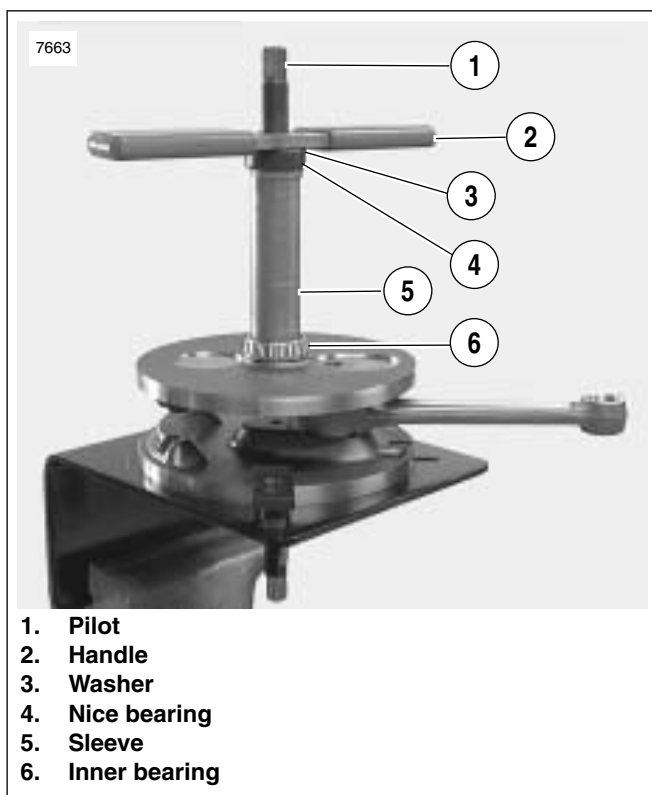

Figure 3-129. Inner Bearing Installation
See Figure 3-129. Use **SPROCKET SHAFT BEARING/SEAL INSTALLATION TOOL** (Part No. HD-42579) to install sprocket shaft tapered roller bearings and seal.
8. See Figure 3-129. Install inner bearing.